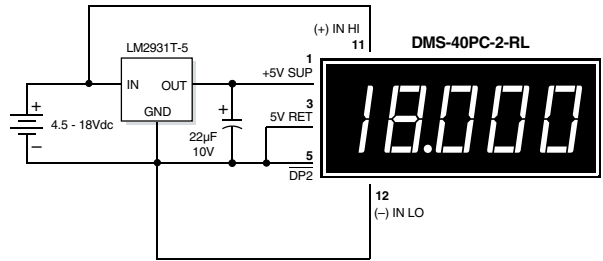

Figure 4. 4.5-18V Power Supply Monitor
3. Power Supply Monitoring: One of the most widely used digital panel voltmeter applications is monitoring the output voltage of a system power supply — often the same supply that also powers the meter. The low-power, red LED DMS-40PC-2-RL, with its excellent 0.001Vdc resolution, can be configured to monitor power supplies with outputs in the range of 4.5-18Vdc. The circuit in Figure 4 uses a low-drop-out, three-terminal regulator (LM-2931T-5, in a TO-220 package, available from National Semiconductor) to provide regulated 5V power to the meter.